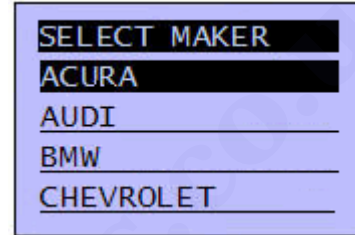

Figure 7
- Press  key, the screen will change to as shown (Figure 7).